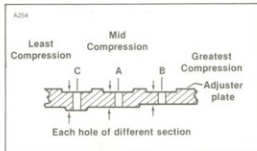
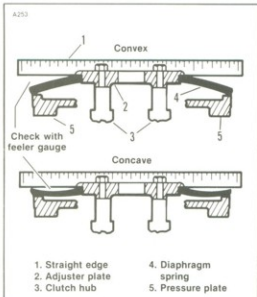

Figure 6-33. Adjuster Plate Hole Positions
Figure 6-34. Checking Diaphragm Spring Adjustment
1. See Figure 6-34. Lay a straightedge across the face of diaphragm spring (4). The spring should be flat within .010 in (See Figure 6-33). If the spring is bowed outward (convex), the adjuster plate is moved to the next hole position of greater compression. If the spring is dished inward (concave), the adjuster plate should be moved to the next hole position of less compression.